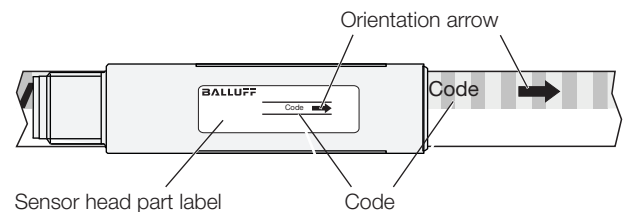

Fig. 4-1: Alignment of sensor head to magnetic tape
3. Align the magnetic tape corresponding to the print (see Fig. 4-1 on page 8).